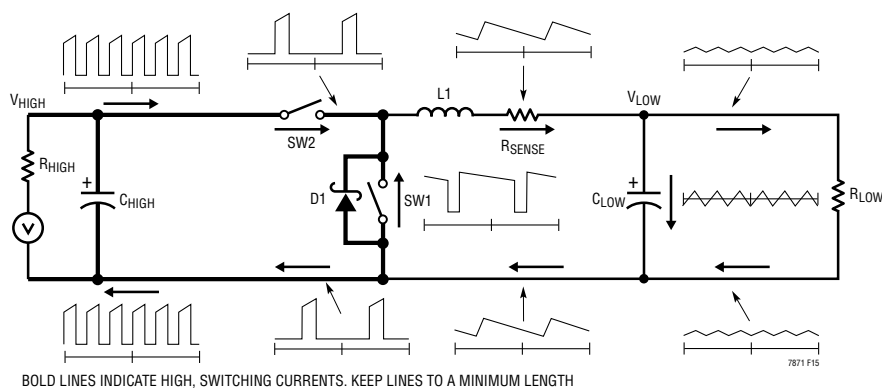

Figure 15. Branch Current Waveforms (Buck Mode Shown)
When laying out the printed circuit board, the following checklist should be used to ensure proper operation of the IC. These items are also illustrated graphically in the layout diagram of Figure 15. Check the following in the PC layout:
8. The ceramic capacitors between each ITH pin and signal ground should be placed as close as possible to the IC. Figure 15 illustrates all branch currents in a switching regulator. It becomes very clear after studying the current waveforms why it is critical to keep the high switching current paths to a small physical size. High electric and magnetic fields will radiate from these loops just as radio stations transmit signals. The  $C_{LOW}$  ground should return to the negative terminal of  $C_{HIGH}$  and not share a common ground path with any switched current paths. The left half of the circuit gives rise to the noise generated by a switching regulator. The ground terminations of the bottom MOSFET and Schottky diode should return to the bottom plate(s) of the  $V_{HIGH}$  capacitor(s) with a short isolated PC trace since very high switched currents are present. External OPTI-LOOP® compensation allows overcompensation for PC layouts which are not optimized, but this is not the recommended design procedure.